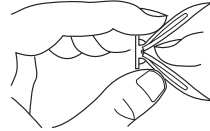

Figure 8 - Folding Anchor
2. Fold anchor as shown in Figure 8.